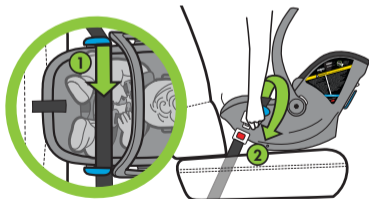

Figure 68
- Route the lap belt through both blue UAS/Lap Belt Guides (1) and buckle vehicle belt (2), as shown in **Figure 68**.